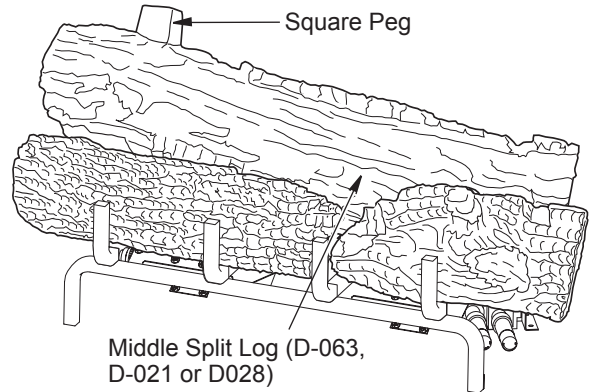

Figure 22 - Installing Middle Split Log (D-021)
- Find the middle split log (LMF24GTA/B or LMF24MOA/B models: D-063, LMF30GTA/B or LMF30MOA/B models: D-021, LMF36GTA/B or LMF36MOA/B models: D-028). See **Figures 22 and 22A**. The split side of the log faces forward. The log has a notch that fits around the burner tube on the right side. The left side of the burner tube fits into the notch on the back side of this log. The log is placed properly when it sits parallel to the tube burner and the square peg is pointing up. See Figures for reference.